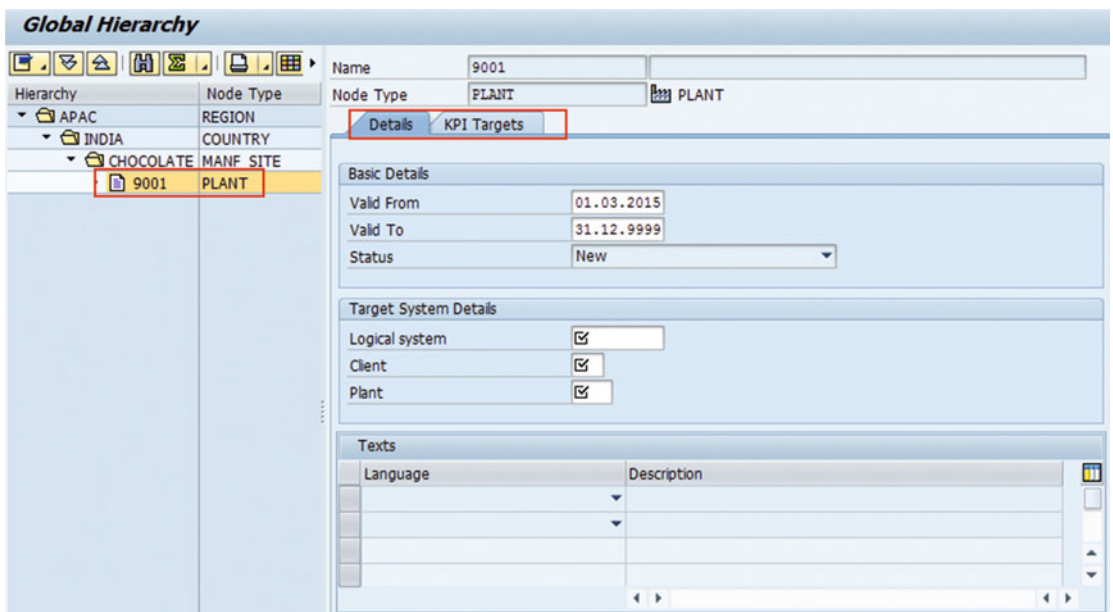

Figure 3-31. Configure global hierarchy: node information
7. For each node type, additional information (refer to Figure 3-31) can be provided to fill in the Details and KPI Targets tabs. For all the nodes other than plant, the Details tab has the validity periods and the status. The status of the hierarchy is displayed in the Status field, which is set to New for a newly configured global hierarchy.